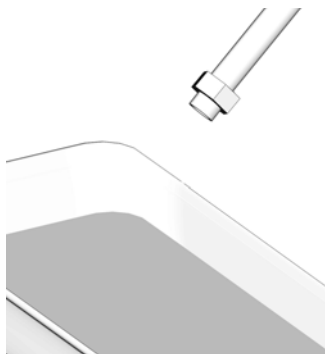

FIG. 57
- a. Place end of hose in a waste container (FIG. 57).